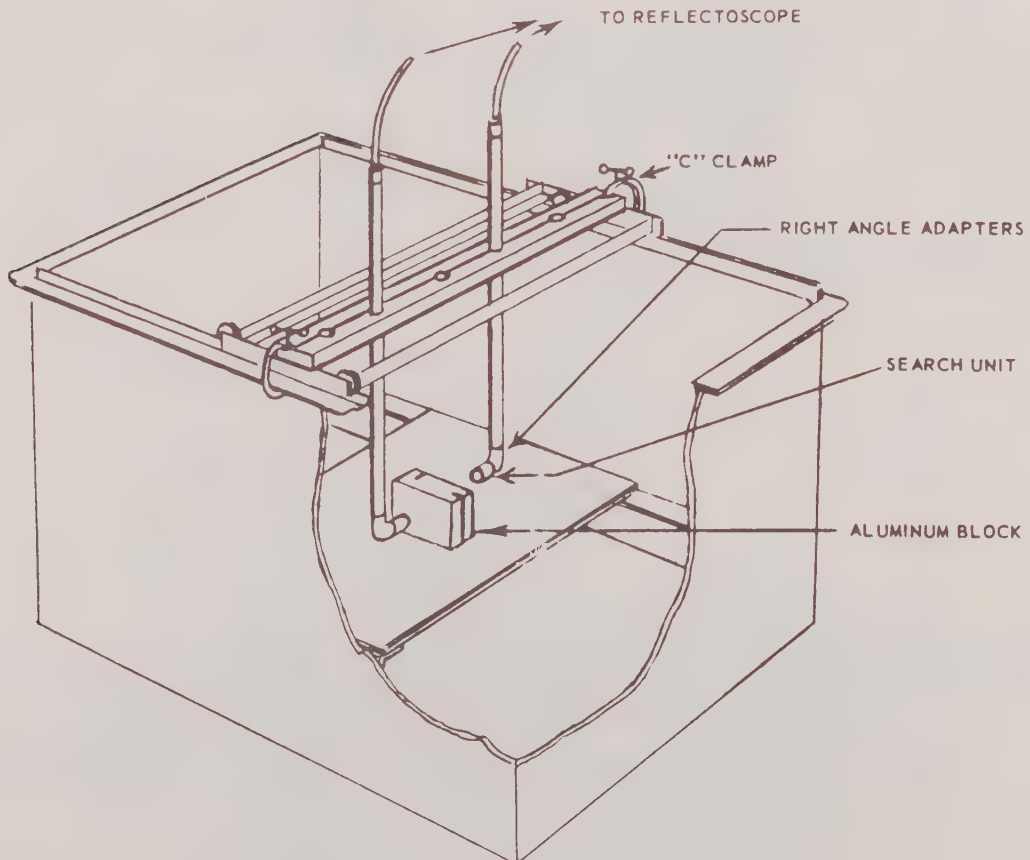

Figure 3-32 Arrangement of Accessory Equipment for Through Transmission
- b. Mount search unit adapters, search unit handles and positioning fixture on tank. Place aluminum block in tank as shown in Figure 3-32